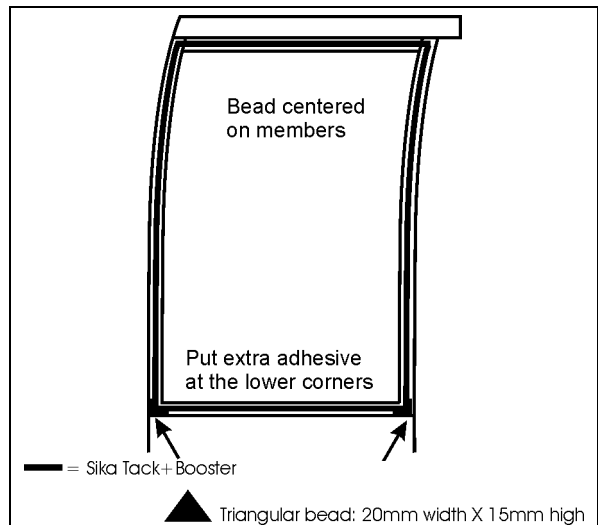
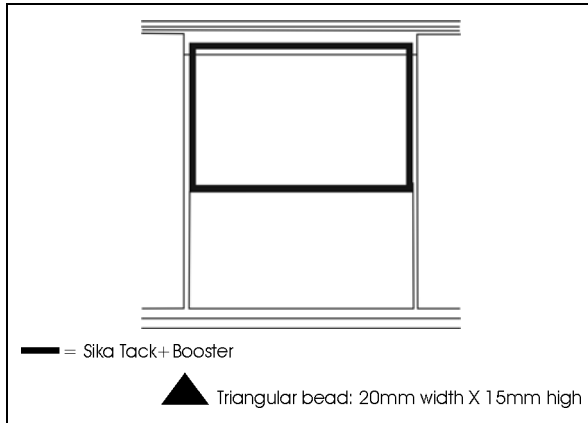

FIGURE 61 : SIDE WINDOW – SIKA TACK + BOOSTER
FIGURE 62 : HALF-WINDOW INSTALLATION – SIKA TACK+BOOSTER
10. Apply Sika Tack+Booster (triangular bead: 20mm width X 15mm high) as per FIGURE 61 (side window) or FIGURE 62 (half-window) [20mm≈13/16"] [15mm≈19/32"];